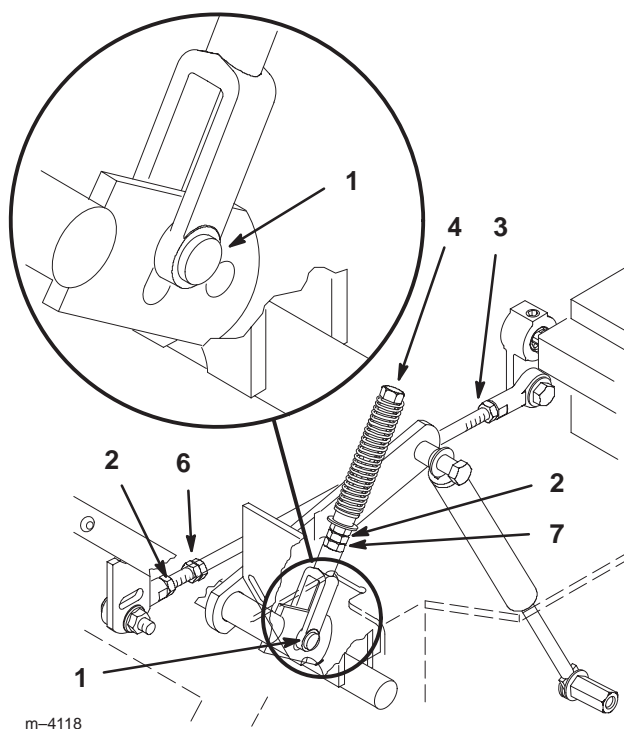

Figure 55
2. Begin with either the left or right motion control lever. Move lever to the neutral (but not locked) position and pull lever back until the clevis pin (on arm below pivot shaft) contacts the end of the slot (just beginning to put pressure on spring) (Fig. 55).
4. If adjustment is needed, loosen the nut against the yoke (Fig. 55).
5. Apply slight rearward pressure on the motion control lever, turn the head of the adjustment bolt in the appropriate direction until lever is centered in neutral lock position (keeping rearward pressure on the lever will keep the pin at the end of the slot and allow the adjustment bolt to move the lever to the appropriate position (Fig. 55).
4. Loosen locknut at ball joint on pump control rod (Fig. 55).
6. Adjust pump rod length by rotating double nuts on rod, in the appropriate direction, until wheel is still or slightly creeps in reverse (Fig. 55).